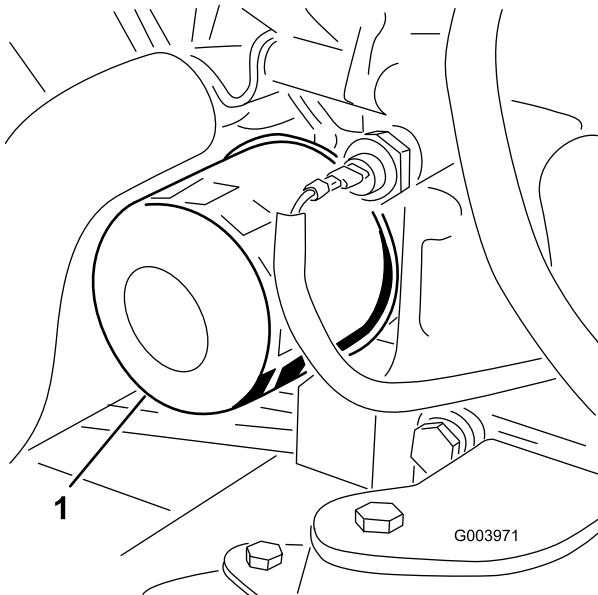

Figure 55
3. Remove the oil filter (Figure 55).